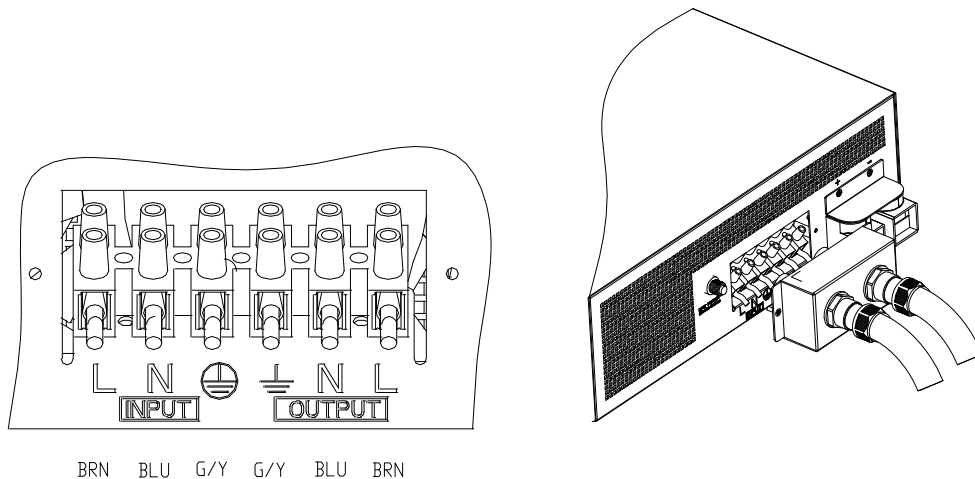

Figure 4 - AC Cable Connections to inverter/charger
2. Feed the wires through the cable clamp and AC cover. See Figure 4.
3. Following the wiring guide located in the AC wiring compartment as Figure 4, connect the GND (green/yellow), Line (brown), and neutral (blue) wires from the AC input (utility, generator, etc.) to the terminal block.